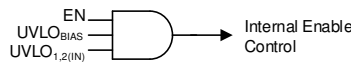

Figure 93. Simplified Turnon Control
Controlling when a single power supply turns on can be difficult in a power distribution network (PDN) because of the high power levels inherent in a PDN, and the variations between all of the supplies. The LDO turnon and turnoff time is set by the enable circuit (EN) and undervoltage lockout circuits (UVLO_{1,2(IN)} and UVLO_{BIAS}), as shown in Figure 93 and Table 2.